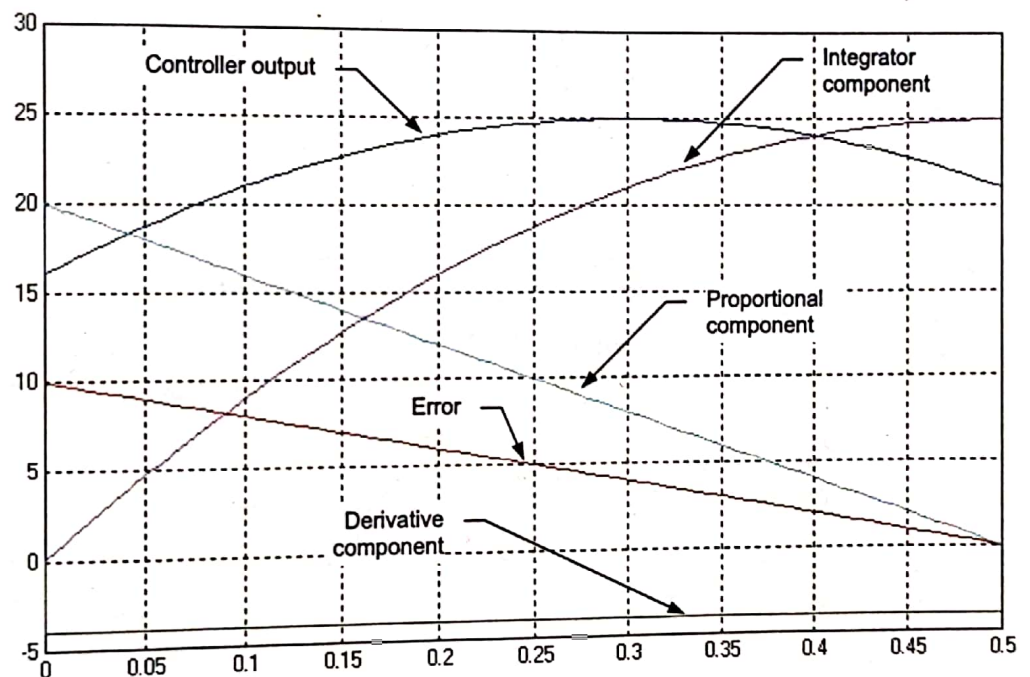

Figure 54. PID components for a negative slope ramping error.
2. Figure 54 shows plots that were made by generating a ramping error with a negative slope into the PID controller. Using the plot, determine the proportional gain K_p , the integral time t_i , and the derivative time t_d .